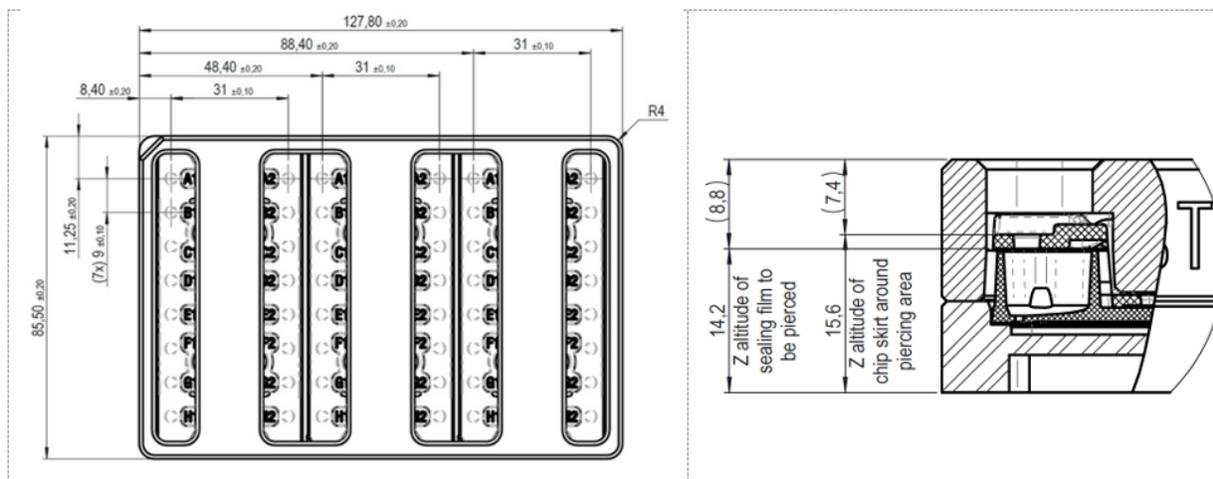

Figure 2 Support Device dimensions and layout
3. Using the dimensions shown in Figure 2, calculate the x and y values for the liquid handling system to document the dimensions for the center location of the pipetting holes for the individual RDG16 cartridge well columns.